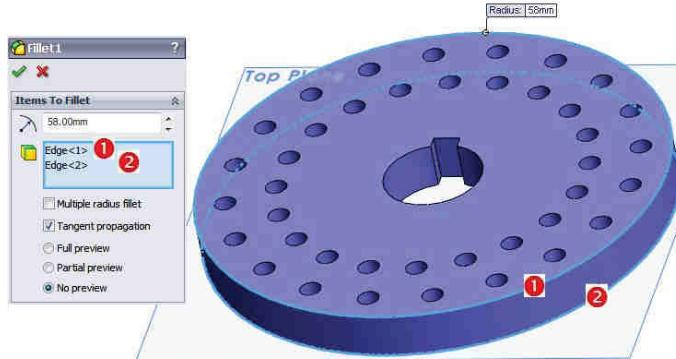

Fig. 3.27
- 3 Racordare 2 muchii R58:** comanda Fillet - Fig. 3.27 - rază R58 / selecție 2 muchii ① ② / .
- 3 How to fillet 2 R58 edges:** the Fillet command - Fig. 3.27 – R58 radius/ select 2 edges ① ② / .